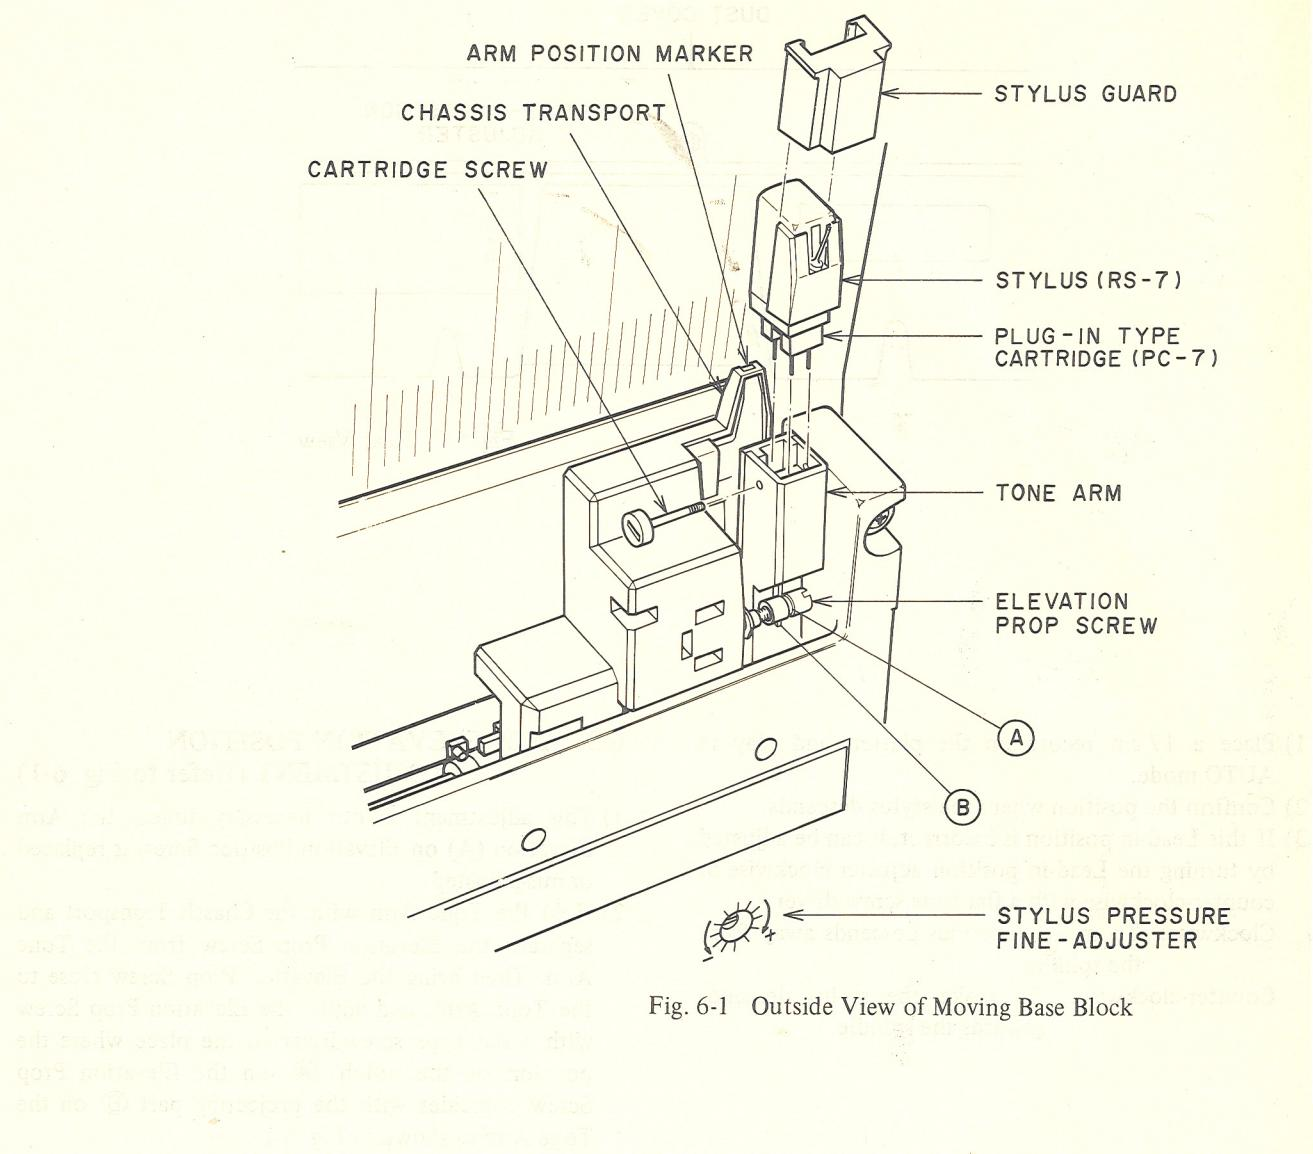

Fig. 6-1 Outside View of Moving Base Block
6-1. ORDINARY MECHANICAL ADJUSTMENTS (Refer to Fig. 6-1)
Pressure Fine-Adjuster located below the Tone Arm section shown in Fig. 6-1.
6-3. ARM ELEVATION POSITION ADJUSTMENT (Refer to Fig. 6-1)
- 1) This adjustment is not necessary unless the Arm Elevation (A) on Elevation Position Screw is replaced or mis-adjusted.
- 2) Hold the Tone Arm with the Chassis Transport and separate the Elevation Prop Screw from the Tone Arm. Then bring the Elevation Prop Screw close to the Tone Arm, and adjust the Elevation Prop Screw with a flat type screwdriver to the place where the position of the notch (A) on the Elevation Prop Screw coincides with the projecting part (B) on the Tone Arm as shown in Fig. 6-1.